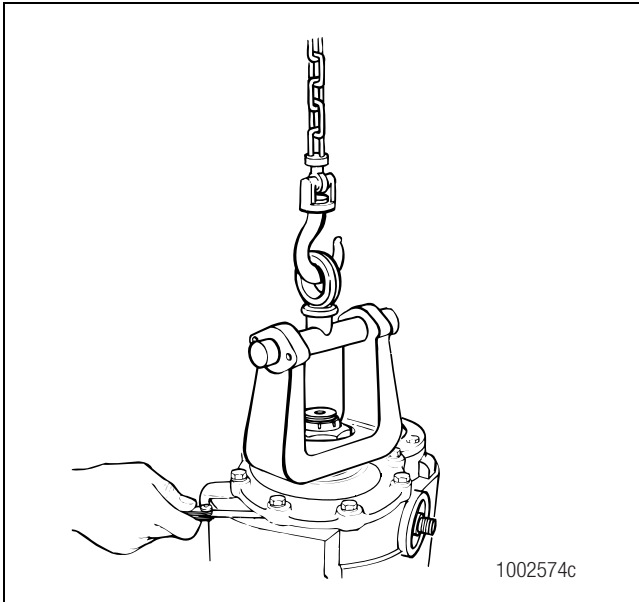

Figure 5.82
2. Use a feeler gauge to measure the gap between the input bearing cage and the differential carrier. Inspect the gap at four equally-spaced places on the cage. Figure 5.82.